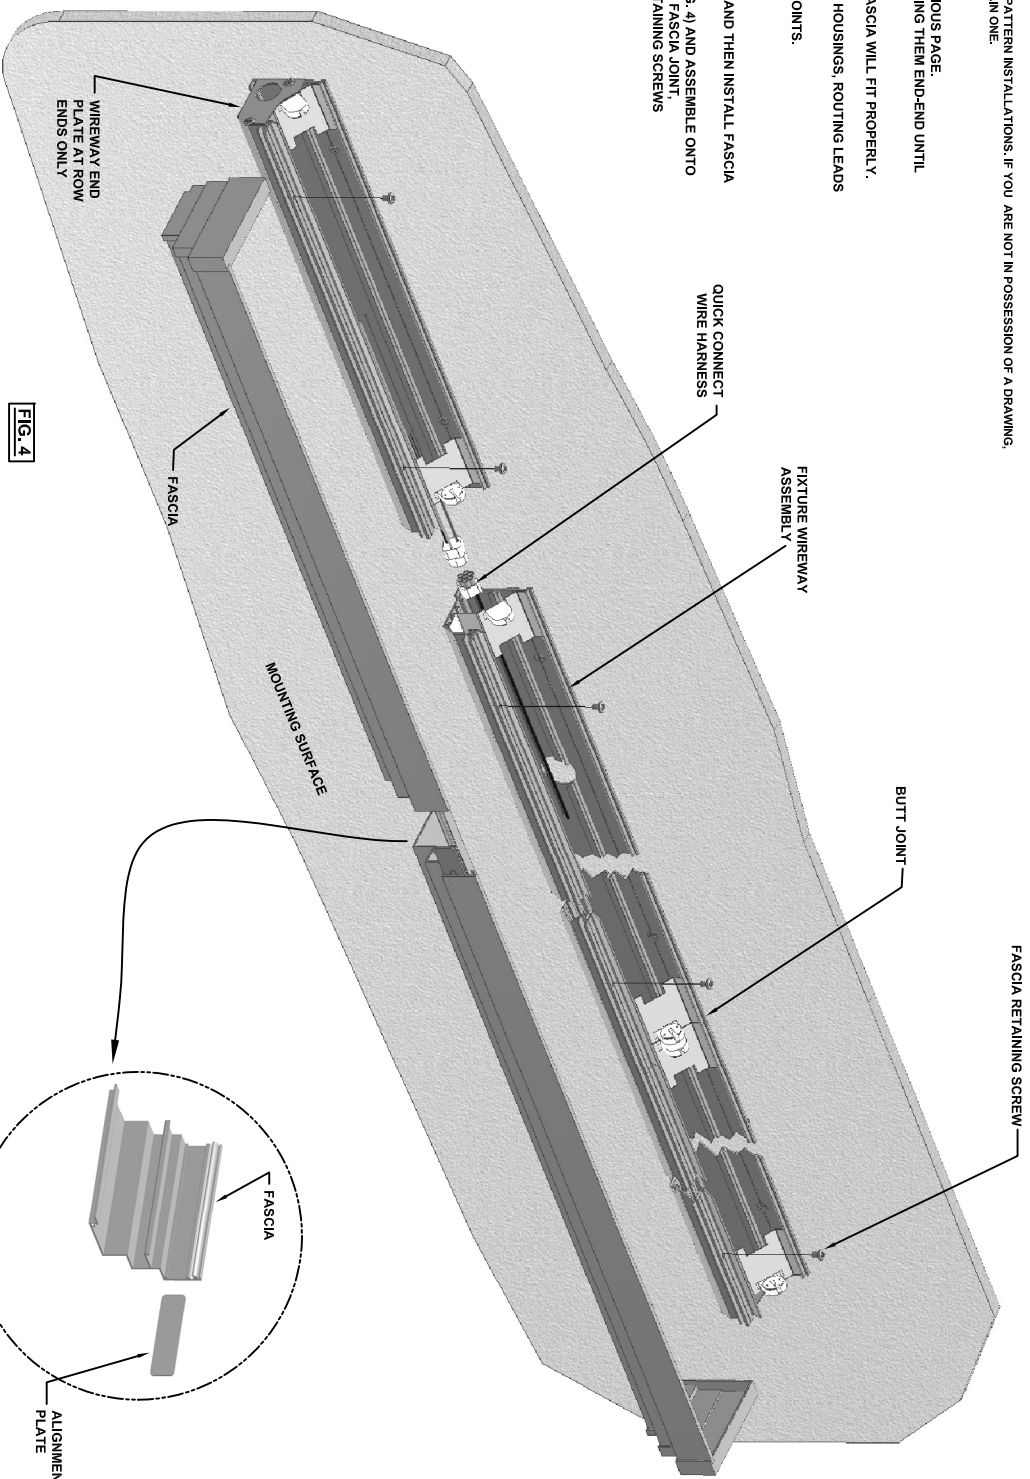

FIG. 4
- * SLIDE AN ALIGNER PLATE INTO RETAINER SLOTS ON NEXT FASCIA (FIG. 4) AND ASSEMBLE ONTO FIXTURE WIREWAY. POSITION ALIGNER PLATE SO THAT IT "SPANS" THE FASCIA JOINT, MAINTAINING CORRECT FASCIA ALIGNMENT AND TIGHTEN FASCIA RETAINING SCREWS TO SECURE FASCIA IN POSITION.